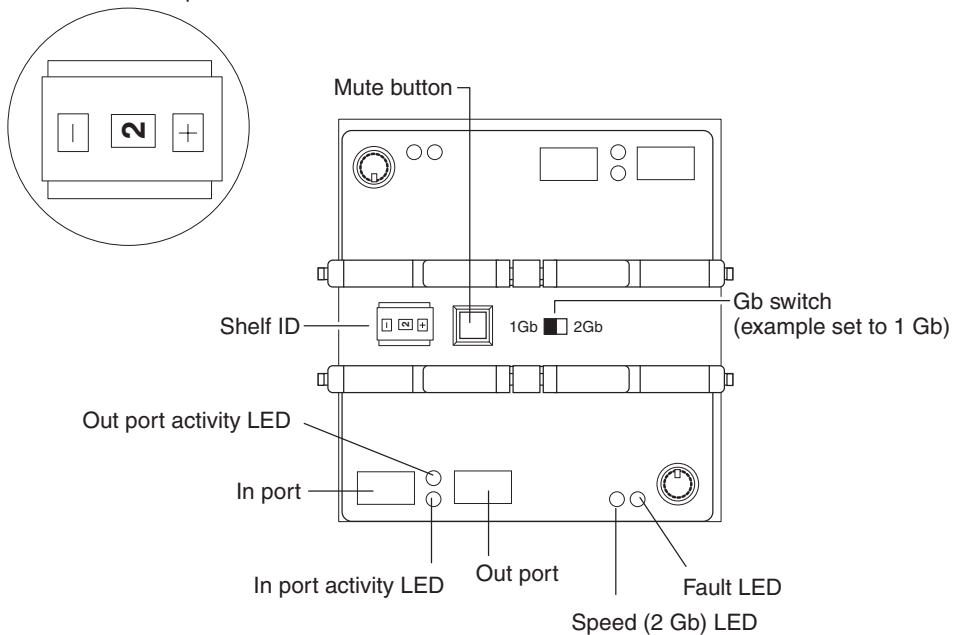

Figure 2. EXN2000 shelf ID and speed switch
The example in Figure 2 on page 9 shows an EXN2000 expansion unit with the disk shelf ID set to 2.
See Figure 2 for the location of the speed switch on the rear of the expansion unit.
- a. Using the switch on the rear of the EXN2000 expansion unit, press the + button to raise the number and the - button to lower the number to a valid ID from 1 through 7. Refer to Figure 2 on page 9 for an illustration.